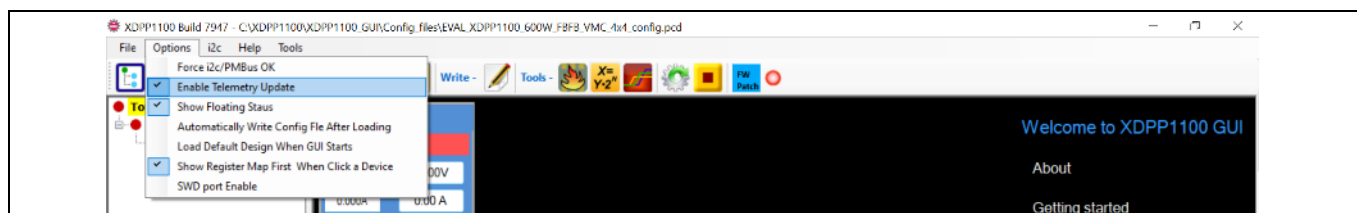
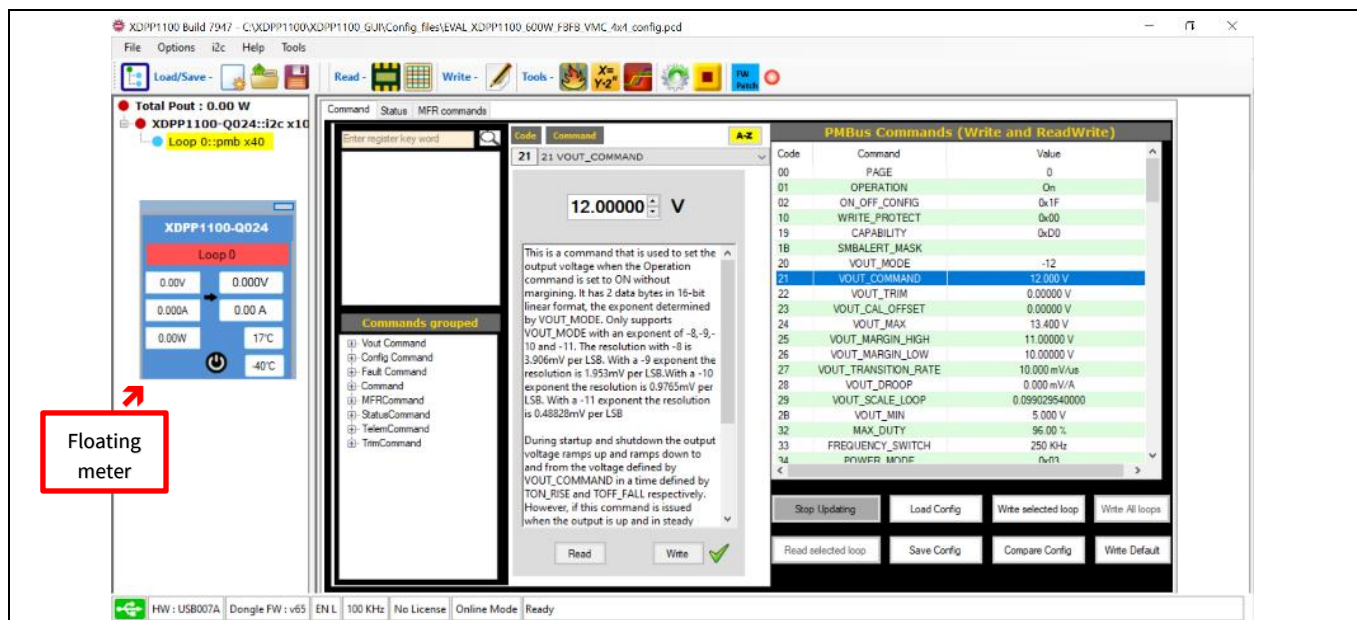

Figure 11 GUI options
Figure 12 GUI with connected XDPP1100-Q024 and the loaded design file
- 9) For continuous monitoring of the system parameters, which are V_{IN} , V_{OUT} , I_{IN} , I_{OUT} , temperature, and P_{IN} , Click **Options>Enable Telemetry Update** (Figure 11). The check symbol next to each feature from the Options dropdown menu indicates that the item is enabled. Undocking the telemetry window can also be activated by enabling **Show Floating Status** (Figure 12) from the list.
Figure 12 shows the GUI after establishing communication and ensuring the configuration file is programmed to the device. To verify establishment of communication between the digital controller and the device (Figure 12):
- Click the **Loop0::pmbus x40** (highlighted in yellow in Figure 12). In the **Command** tab, the PMBus configuration page of Loop0 will be listed.
- Click the **Loop0::pmbus x40** below the device part number (**XDPP1100-Q024::i2c x10**) (highlighted in yellow in Figure 12). This opens the PMBus configuration page of Loop0.